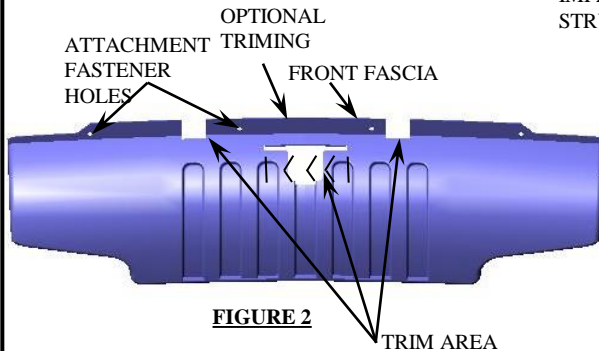

FIGURE 2
①	Qty. (2)	HEX BOLT – 1/2"-13 X 1-1/2" GR 5	⑥	Qty. (2)	LOCK WASHER – 1/2"
②	Qty. (6)	WASHER – 1/2" CONICAL	⑦	Qty. (4)	HANDLE NUT – 1/2"-13
③	Qty. (2)	BLOCK – 1/4" X 1-1/2" X 3"	⑧	Qty. (2)	CABLE TIES (NOT SHOWN)
④	Qty. (2)	HEX NUTS – 1/2"-13	⑨	Qty. (2)	BLOCK – 1/4" X 1-1/2" X 2"
⑤	Qty. (4)	HEX BOLT – 1/2"-13 X 1-1/4" GR 5
- REMOVE (6) FRONT FASCIA ATTACHMENT FASTENERS, (4 LOCATED AS SHOWN IN FIGURE 2 AND (2) LOCATED AT THE REAR SIDE OF IMPACT STRUCTURE) WITH A GOOD NUMBER 2 PHILLIP HEAD SCREW DRIVER.